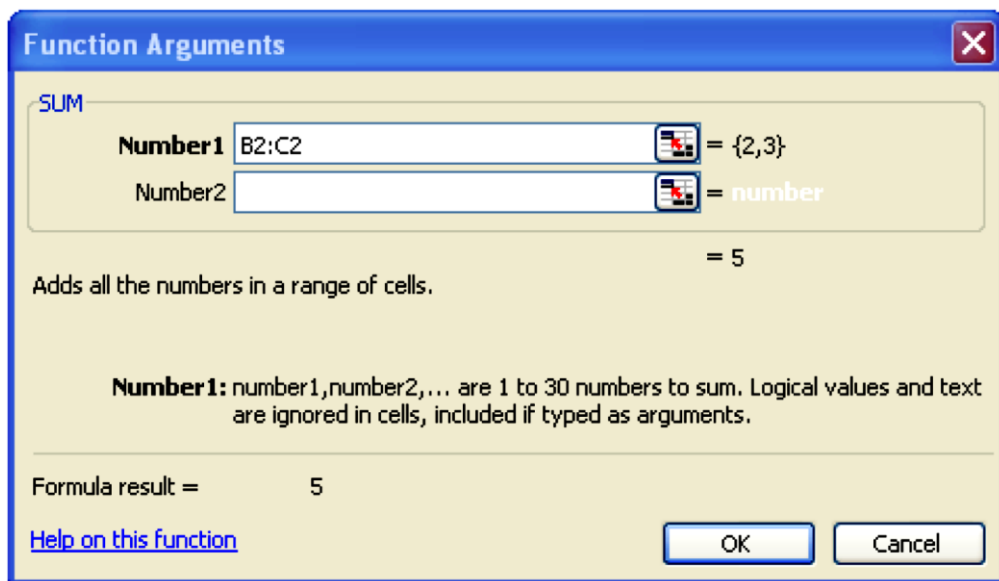

Figure 5
5. The next window (**Fig. 5**) allows you to choose the cells that contain the arguments of the function. In this example, cell B2 and C2 are selected to compute their sum. The values of the cells B2, and C2 are, respectively 2 and 3. Excel identifies the range of the cells in the function to (B2:C2). In the lower part of the **Function Argument** dialogue box you can see the formula result.